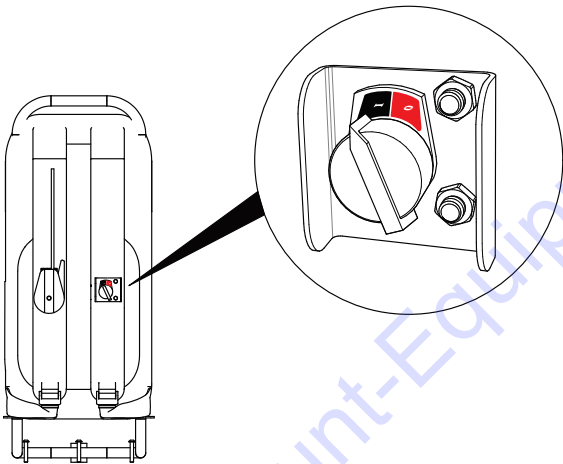

Figure 12. Engine ON/OFF Switch (ON)
- Place the ON/OFF switch located on the **left** strap to the **ON** position (Figure 12).